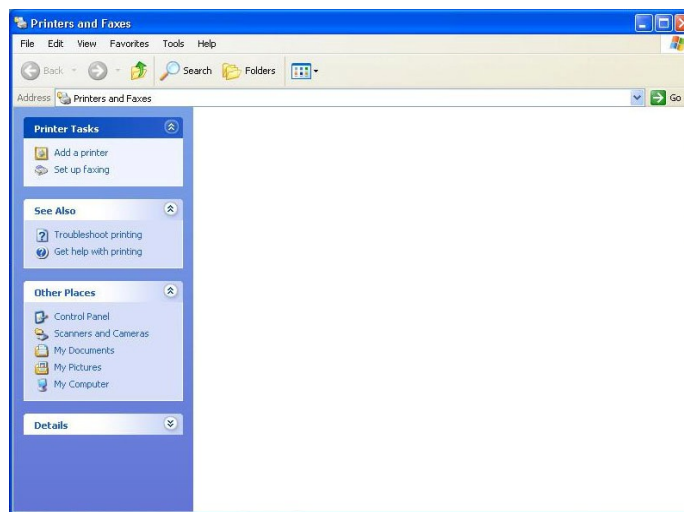

**Figure 4-2 General Setup**
Click the "Date/Time Icon (Figure 4-2 (11))" Date/Time to view the Date/Time Properties window: